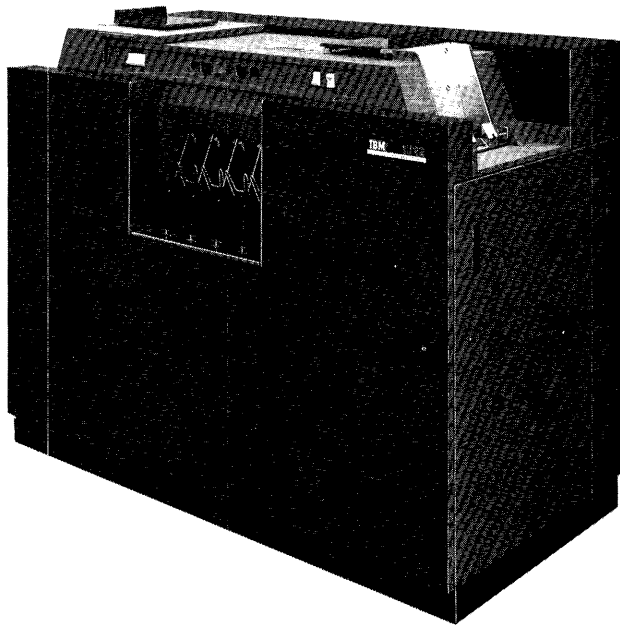
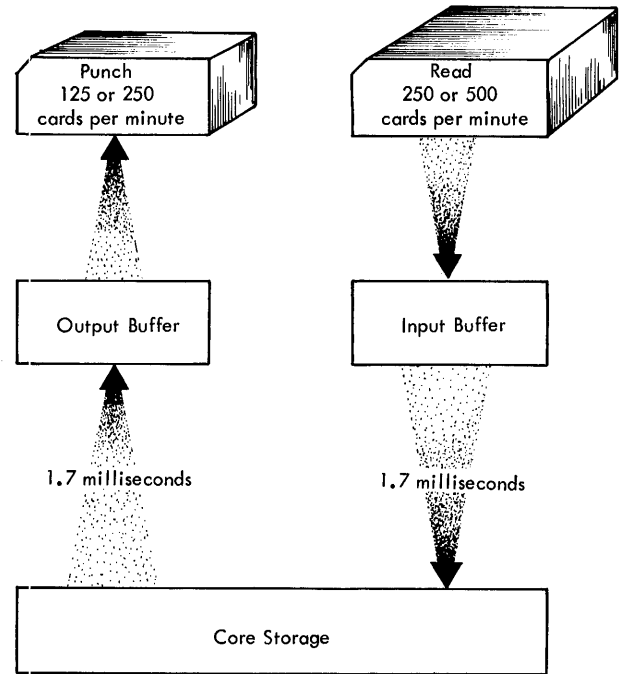

Figure 8. IBM 1622 Card Read-Punch
Figure 9. 1622 Buffer Storage
The IBM 1622 Card Read-Punch (Figure 8) provides punched card input and output for the system. The reader and punch feeds are separate and functionally independent, with individual switches, lights, checking circuits, buffer storage, and instruction codes. Under program control, up to 250 cards per minute (cpm) can be read and 125 cpm punched in the Model 1; the Model 2 reads at 500 cpm and punches at 250 cpm. Reading, punching, and processing can occur simultaneously because of individual buffer storage. Buffer storage data is transferred in 1.7 ms (Figure 9). A Last Card indicator (09) is provided for end-of-job interrogation by the programmer.